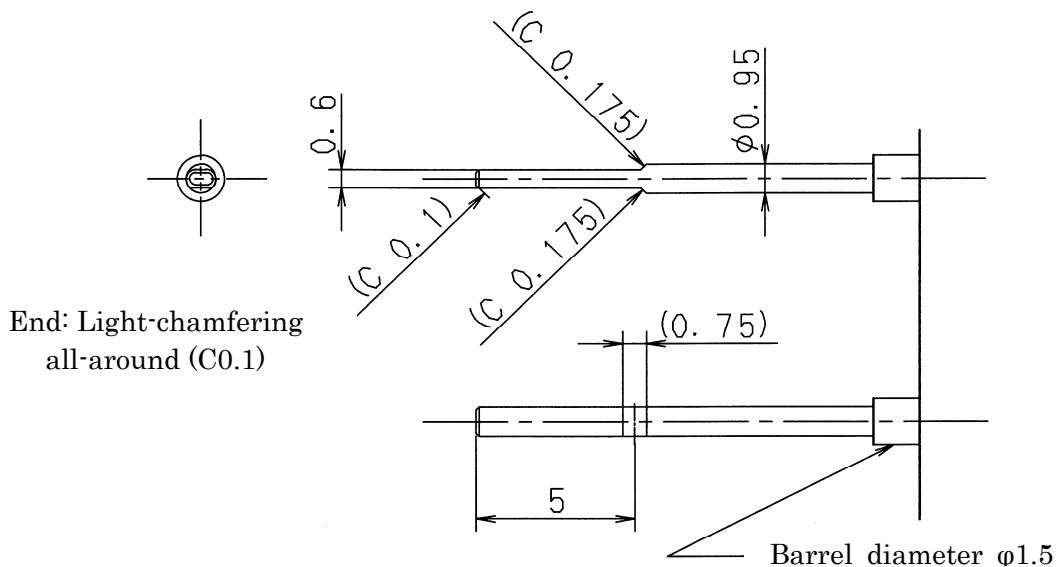

Figure 2. Tester probe for 025-F
- See figure 2 for the dimensions of the probe.